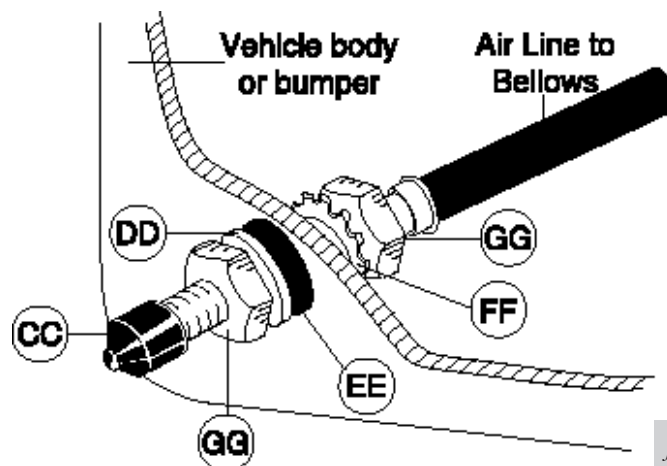

fig. 10
4. Place a 5/16" nut (GG) and a star washer (FF) on the air valve. Leave enough of the valve in front of the nut to extend through the hole and have room for the rubber washer (EE), flat washer (DD), and 5/16" nut (GG) and cap (CC). There should be enough valve exposed after installation - approximately 1/2" - to easily apply a pressure gauge or an air chuck (Figure 10).
5. Push the inflation valve through the hole and use the rubber washer (EE), flat washer (DD), and another 5/16" nut (GG) to secure it in place. Tighten the nuts to secure the assembly in place (Figure 10).